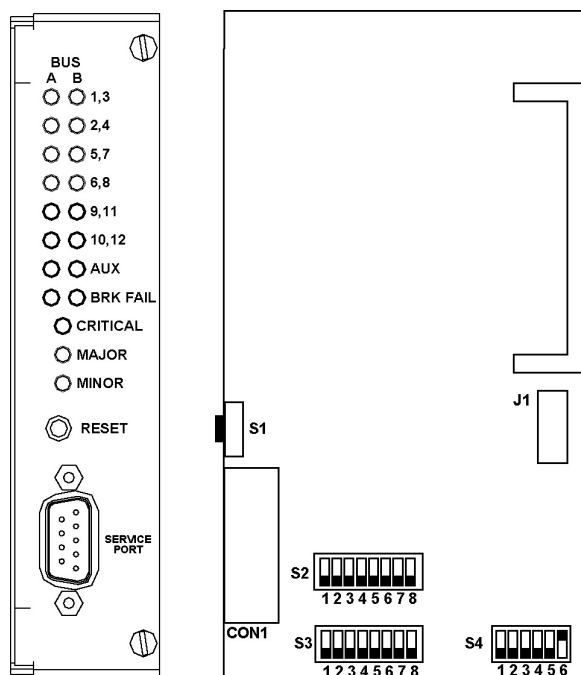

Figure 20: Alarm Card Front and Side View
3. Locate DIP switches S2, S3, and S4. See Figure 20: Alarm Card Front and Side View